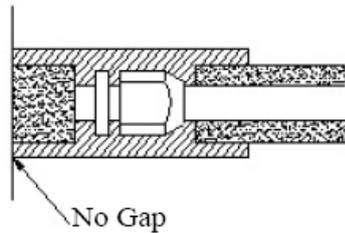

Fig.18
2. The joint connecting to the indoor unit must be wrapped by thermal insulation material. There shall be no gap between the connecting pipe joint and the wall of the indoor unit. Refer to Fig 18.